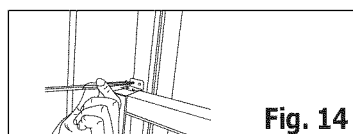

Fig. 14
6. To secure lower sash in place, attach right angle sash lock with 12.7mm (1/2") screw as shown (FIG. 14).